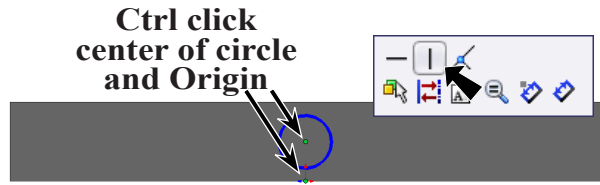

Fig. 19
Step 6. **Ctrl click center point of circle and Origin** to select both, **Fig. 19**.